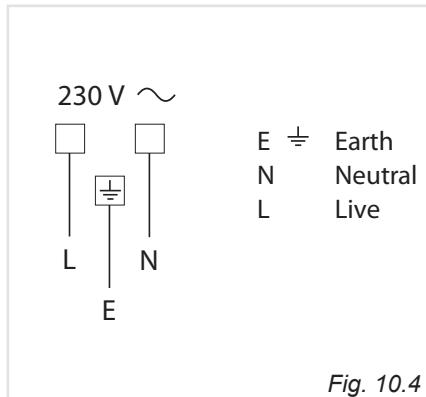

Fig. 10.4
- Connect the phase, neutral and earth cables to the terminal block according to the diagram in figure 10.4.